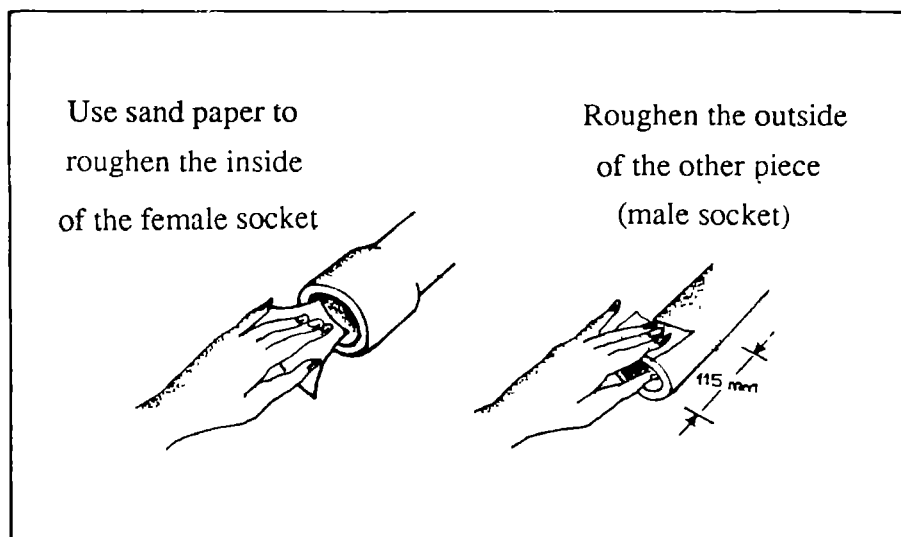

FIG 10. SOCKET MAKING.
5. Roughen the surfaces (for both the pieces and rising main) with sand paper. ready for connection. (see figure 10 below)